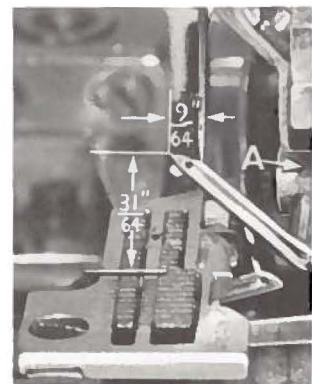

Fig. 10
Next, turn handwheel until looper is at the left end of its travel; check dimensions of upper looper point with respect to needle and throat plate (Fig. 10). If resetting is necessary, do it by moving the upper looper holder (A, Fig. 10). Figure 10 represents the dimensional setting for Style 39500 JR.
If it becomes necessary to move looper thread pull-off (AF), be sure to take up all end play in needle drive shaft before tightening. If upper looper is located so that it is higher over throat plate than recommended in Fig. 10, the purl will tend to form near top edge. If upper looper is too low, the purl will form nearer bottom edge.